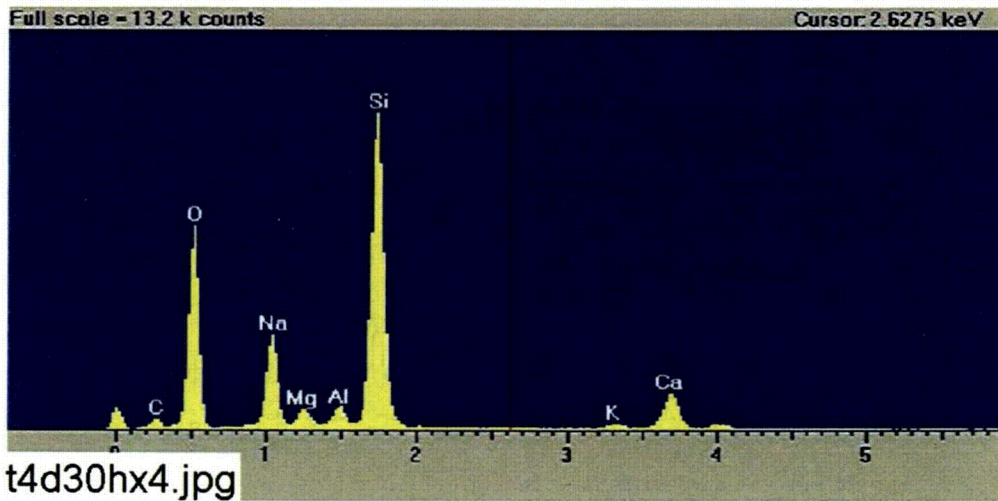

Figure C5-4. EDS counting spectrum for the spot of coating substance on fiberglass shown in Figure C5-3. (t4d30hx4.jpg)
- Figure C5-4. EDS counting spectrum for the spot of coating substance on fiberglass shown in Figure C5-3. (t4d30hx4.jpg) C5-5